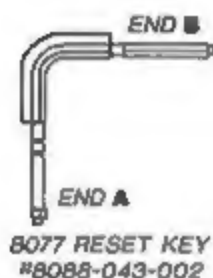
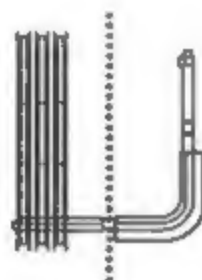

Figure 4
Figure 5
• Step 9 – Insert end B of the reset key (Figure 4) through the padlock's change key hole until the rib of the key is just outside the padlock (Figure 5). It may be necessary to wiggle the key slightly to insert it fully into the lock.